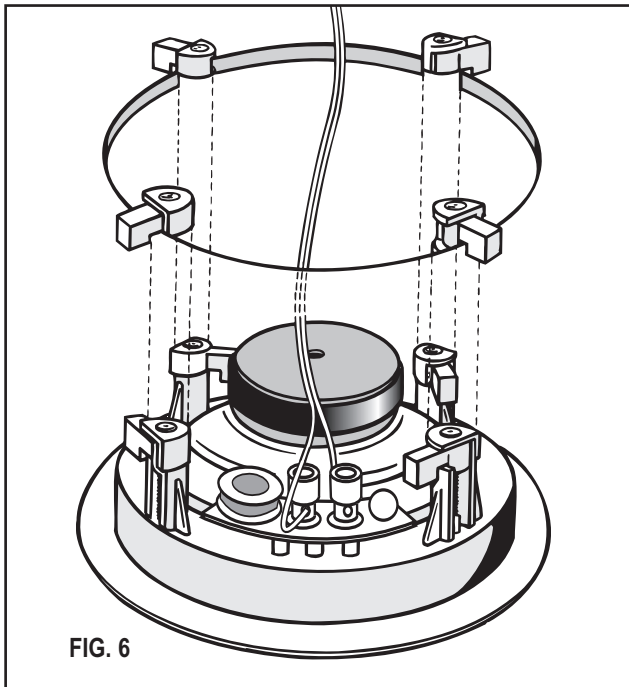

FIG. 6
6. See Fig. 6. With the speaker wire attached to the speaker, slide the speaker up inside the cut-out hole. Center the speaker in the cut-out hole and turn the four locking screws clockwise until the speaker is drawn up snugly to the wall board from behind, clamping the speaker in place. Try to tighten each screw equally. Replace the speaker grill by gently pressing it into place.